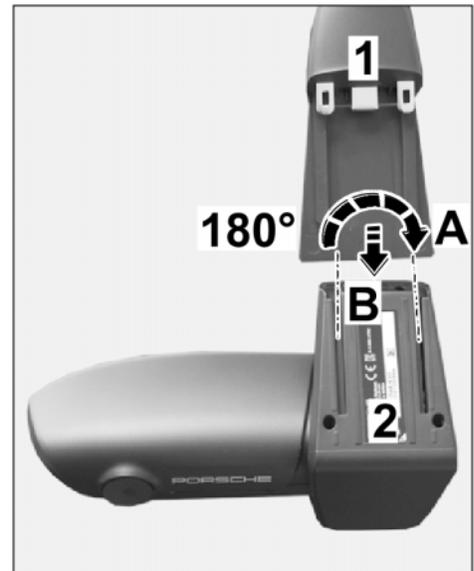

Figure 7
2.1.1 Install retainer plate with wire harness on the base of the front camera until the locking mechanism engages (⇒ Figure 7).